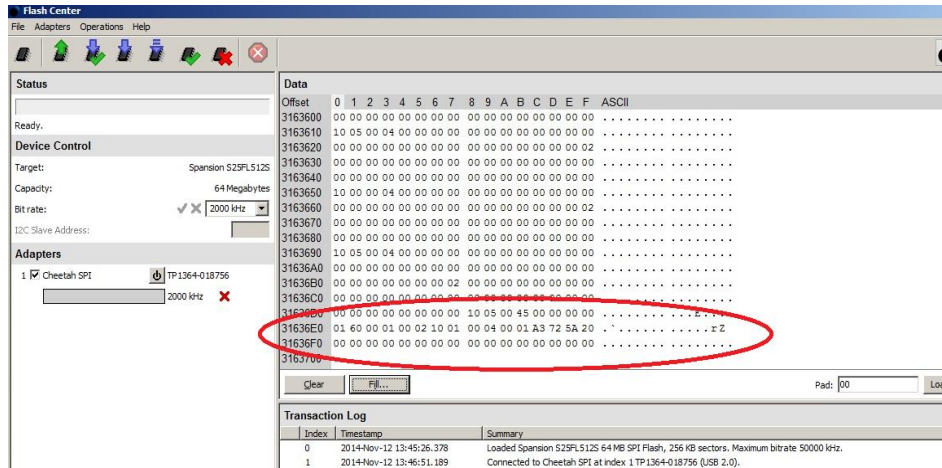

Figure 8: Screenshot from Totalphase GUI when Writing to Flash
7. You will see the contents written as shown in Figure 8 below.